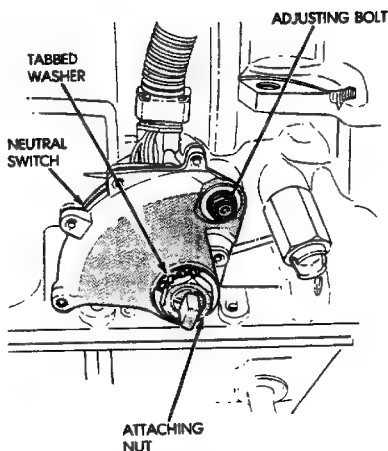

Fig. 4 Neutral Switch Removal/Installation
- (1) Raise vehicle.
- (2) Disconnect switch wire harness connector.
- (3) Pry washer lock tabs upward and remove switch attaching nut and tabbed washer (Fig. 4).
- (4) Remove switch adjusting bolt (Fig. 4).